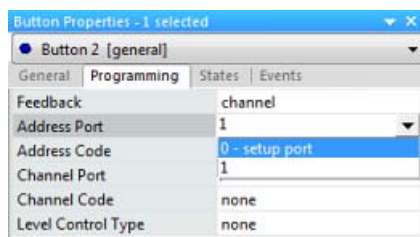

FIG. 406 Address Port: 0 - Setup Port
3. Select **0-setup port** from the drop-down menu (FIG. 406):